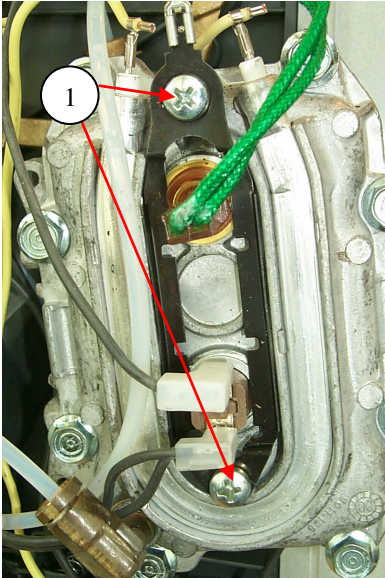

Fig. 30
- c) Unscrew the two screws (1) of the thermostat fitting and remove the thermostat and thermal sensor (Fig. 30).